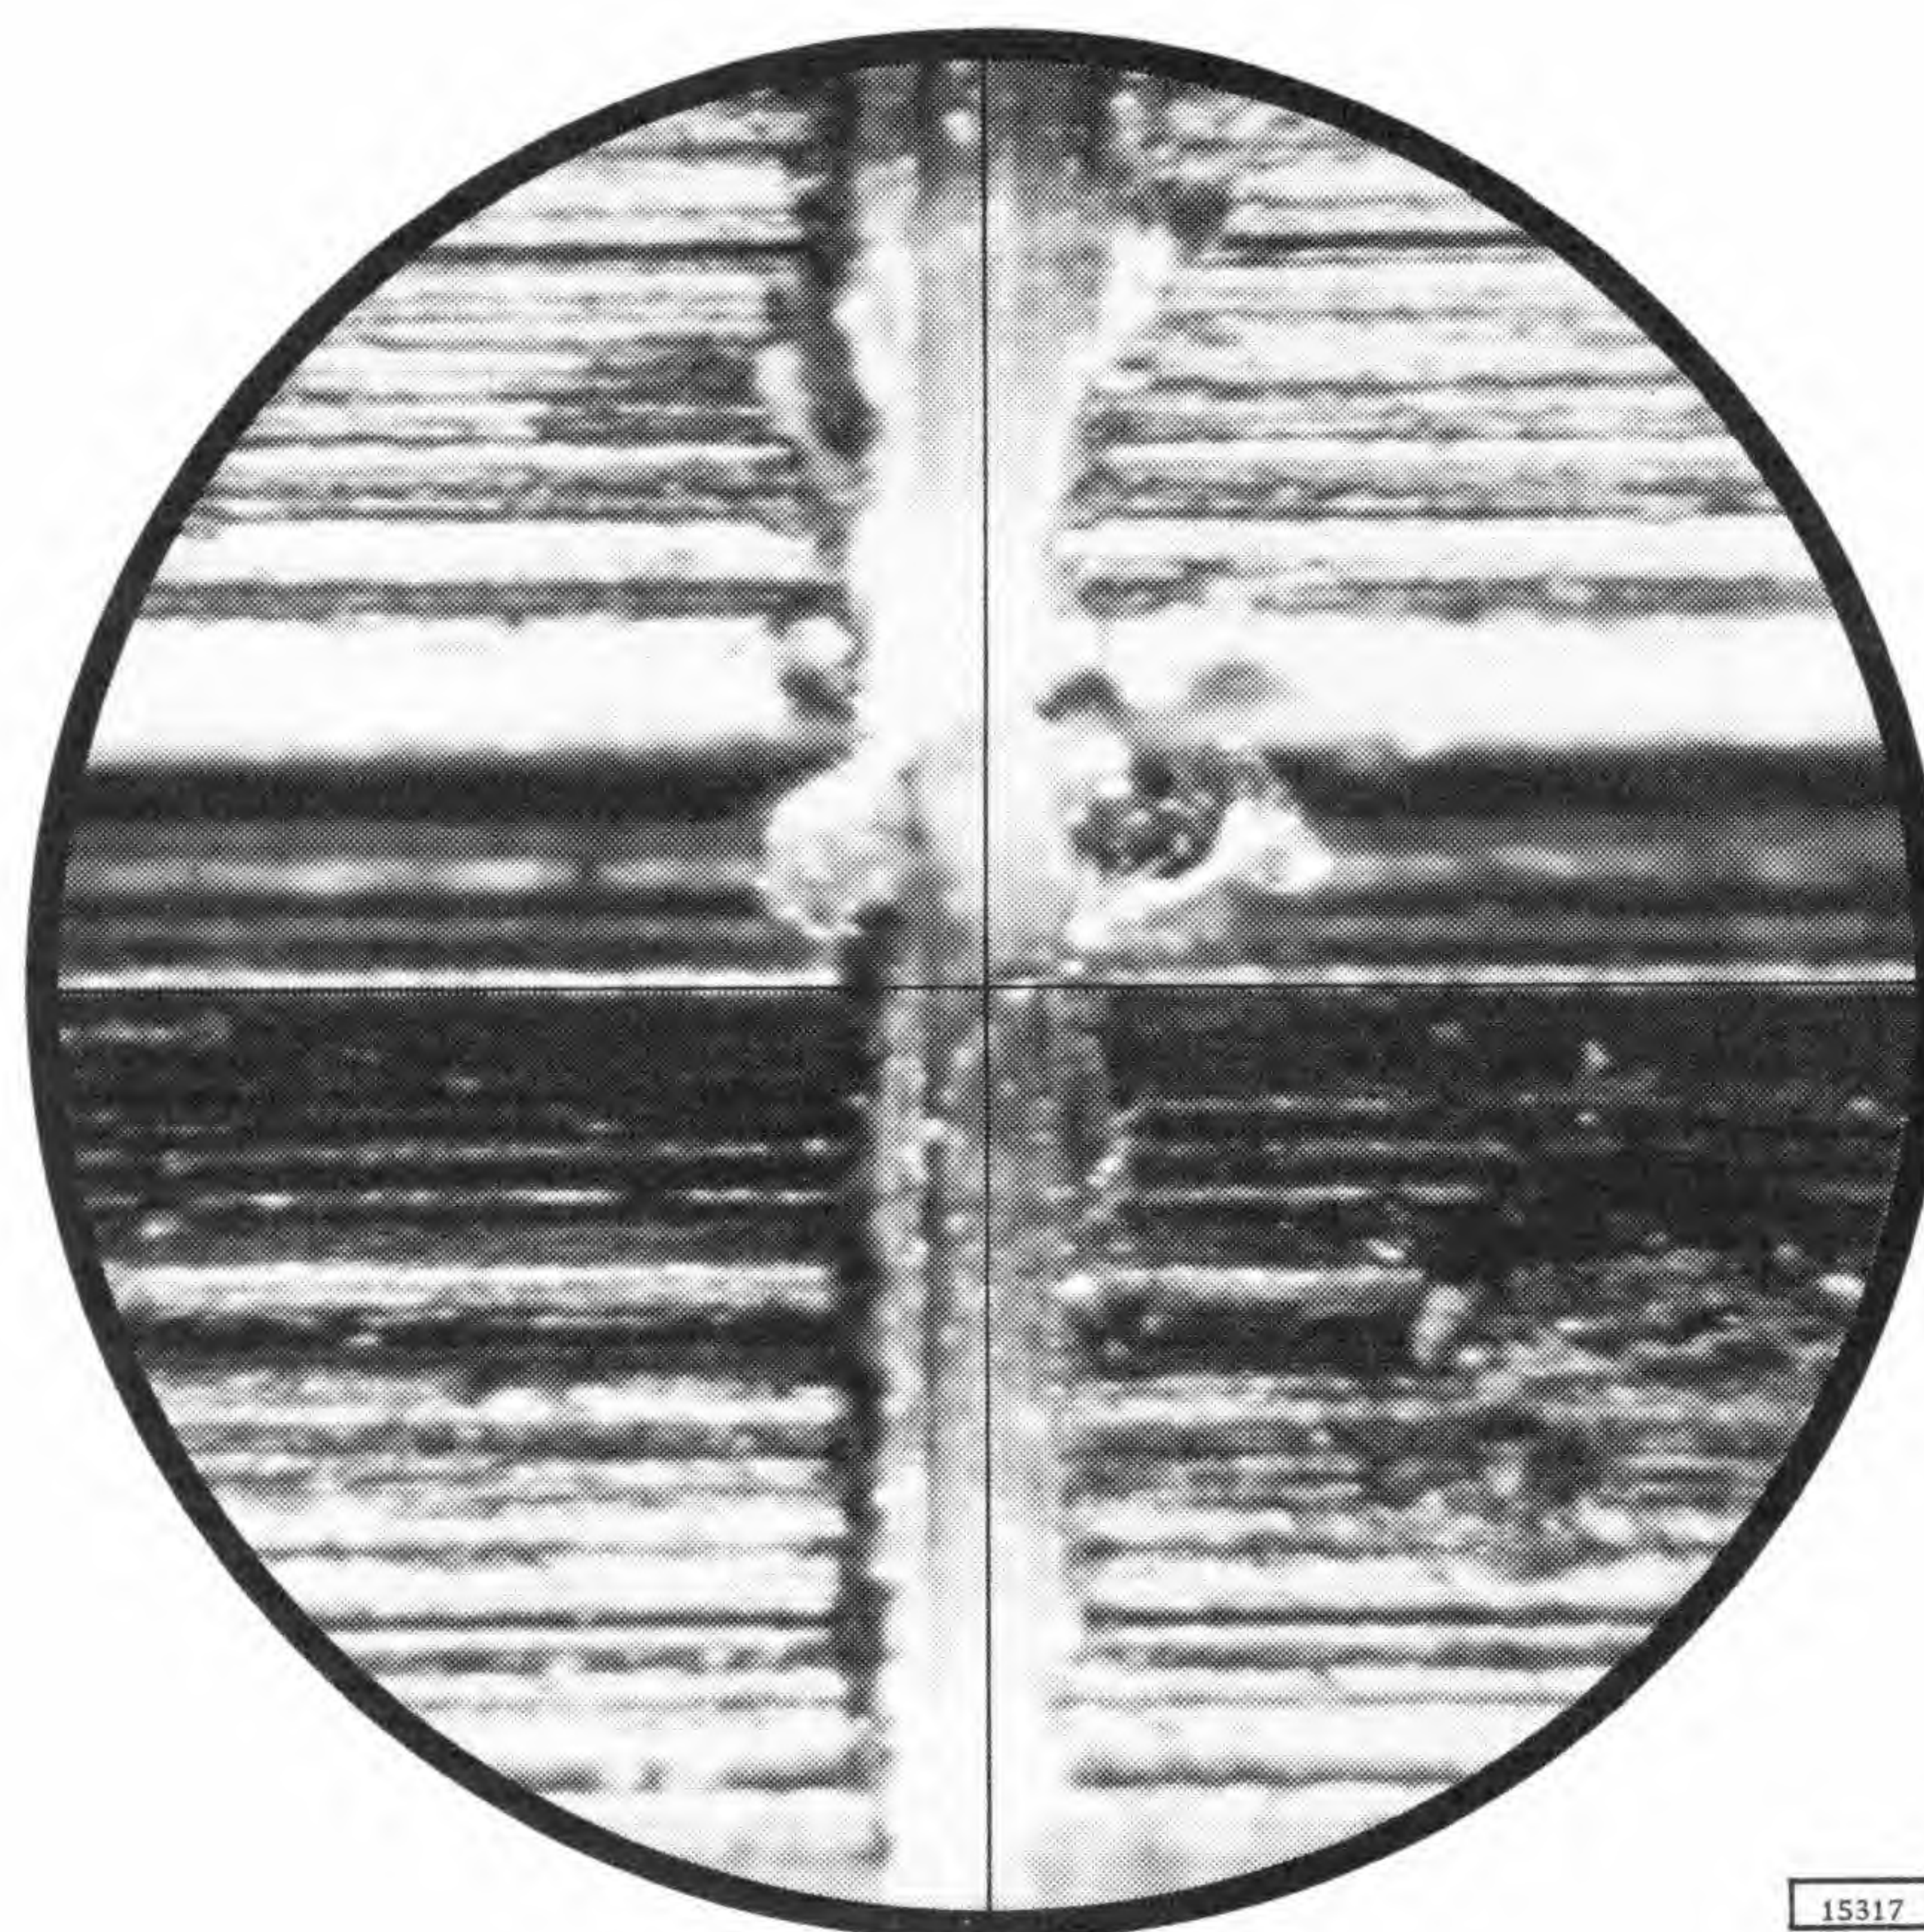

Figure 2-12. Magnified Scribed Line on Disk
3. Install microscope into disk aligning fixture in scribe mounting. Align the scribe mark with the center of the cross-hair by positioning the disk. Then the microscope should be rotated to appear as shown in Figure 2-12.